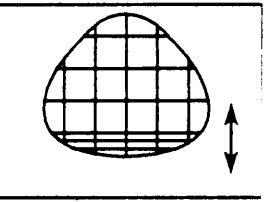

Fig 4.
- 4: Adjust the vertical symmetry to obtain symmetrical scanning between upper and lower picture (fig. 4).